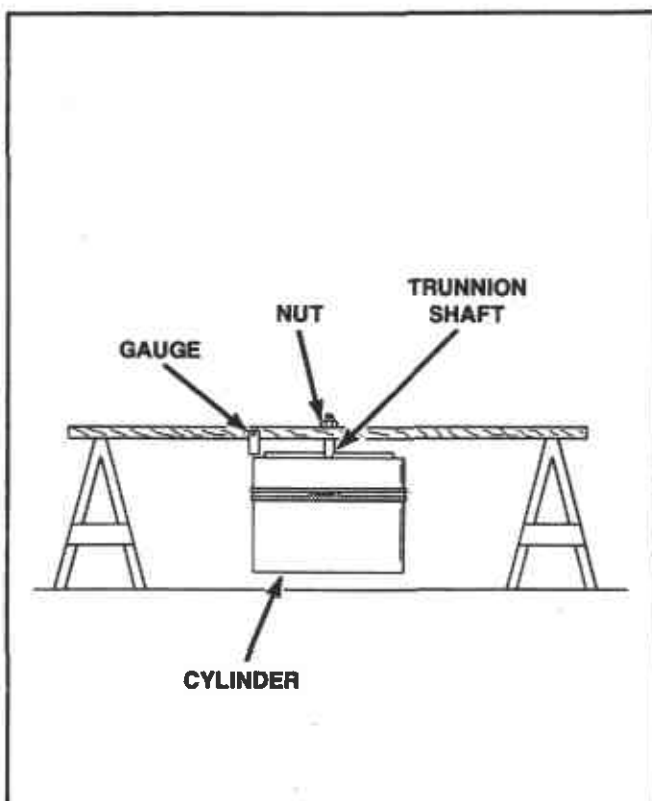

Figure 18
**IMPORTANT:** When installing trunnion shaft assembly on cylinder, cylinder and shaft must be leveled. Refer to *Figure 18* for an example of how to check the levelness of the shaft and cylinder. Hang shaft and cylinder through the hole and place nut on shaft. While turning cylinder by hand, use a gauge and check the cylinder edge for levelness. If the cylinder is not level, place a shim or shims between the appropriate trunnion bracket, rod and cylinder.